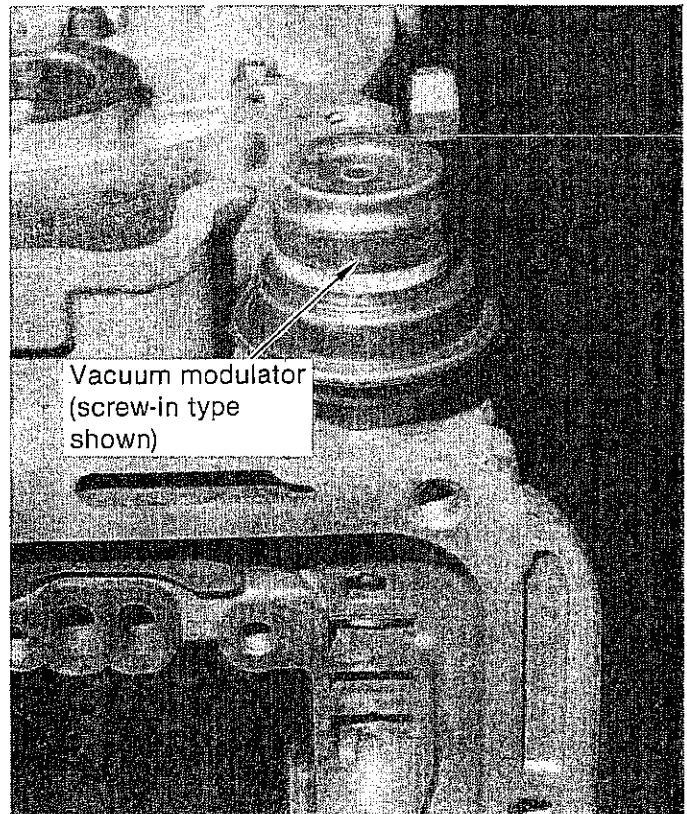

FIGURE 27
STEP 18. Remove the vacuum modulator. Some modulators are screw in and are removed by a wrench on the hex portion of the modulator. (See Fig. 27) Do not apply wrenching action to the modulator as you can damage the diaphragm. Some model units retain the modulator with a clamp which was removed with the extension housing. Pull the modulator out of the case. Discard gasket or O-ring. Remove the modulator rod and valve from the case. Put them in the oil pan.